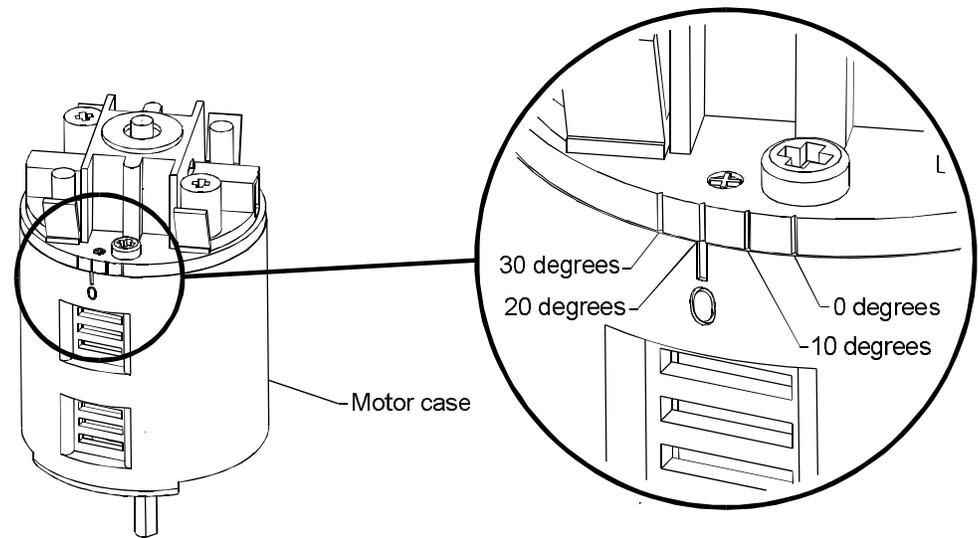

Figure 3-8.
13. Make sure the plastic shaft washers are properly installed, and reassemble the end-bell to the motor case. Set the end-bell timing mark between 15 and 20 degrees as shown in Fig. 3-8, and tighten the end-bell screws. Do not over-tighten the end-bell screws or you will bend the internal locking ring.